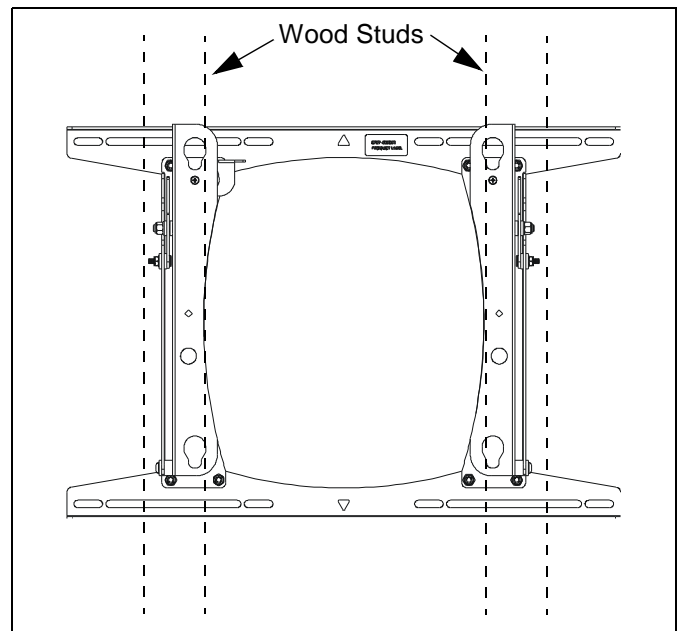
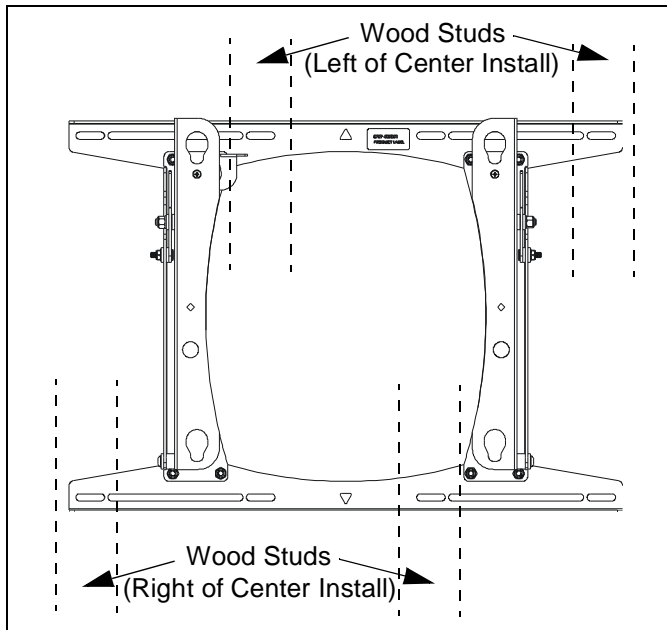

Figure 3
Figure 4
- 16" on center studs: The mount can be installed centered between the studs as shown (See Figure 3), or it can be installed to the left or right of center (See Figure 4).